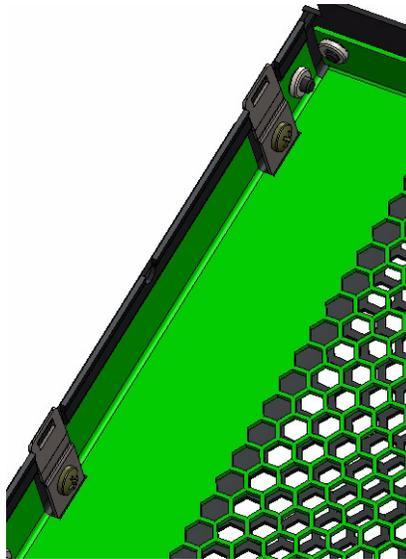

Figure 1-6 Front Bezel Grille Attach Tabs
5. Once all the wires have been successfully connected, swing the grille shut such that it can be snapped into place on the front of the chassis using the attached tabs (Figure 1-6). Push firmly but gently to attach the front grille.